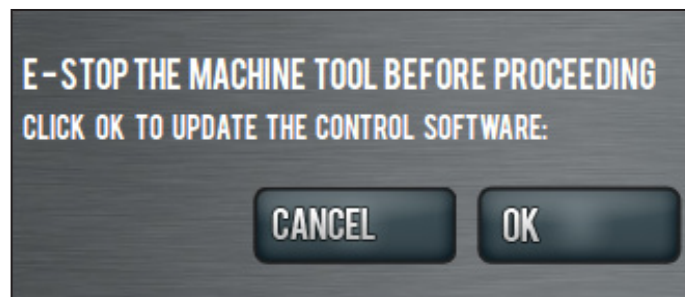

Figure 5
6. When prompted, push red E-stop button (see **Figure 5**) and click *OK*.